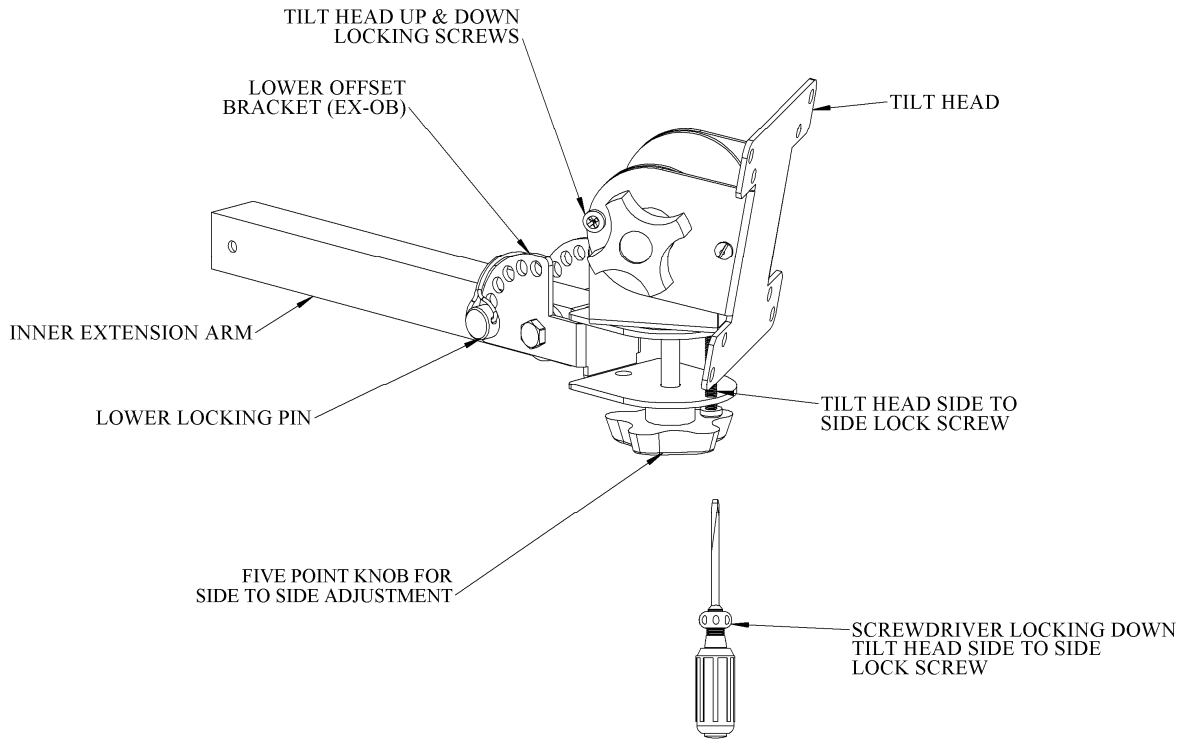

Figure 5 - UVHM-EX and VESA tilt head adjustment
2. Check that the bottom of the tilt head is flat and that the four point tilt knobs are tightened enough so that the tilt head cannot move easily (See Figure 5).
5. Hold the five-pointed knob so that the threaded shaft is pointing up and it is under the end of the arm. Guide the knob shaft up through the hole in the end of the arm, and through the anti slip washer until it contacts the center of the threaded hole in the bottom of the tilt head (See Figure 5).
2. Slightly loosen the large five point knob below the lower OB bracket just enough so that the tilt head will turn (See Figure 5).
2. Slightly loosen both of the four point knobs on both sides of the tilt head just enough so that the monitor can be moved up and down slightly (See Figure 5).
3. Using a standard Philips type screwdriver, gently tighten the two locking screws on the sides of the tilt head and the single locking screw on the bottom of the tilt head (See Figure 5).
1. First, support the entire weight of the screen. Doing one at a time, carefully loosen the locking screws until only three threads at the end of the screw shaft can be seen protruding through the metal next to the anti-slip washer (See Figure 5).